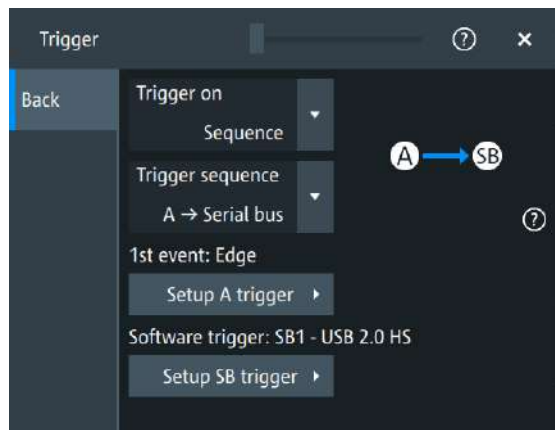

Figure 14-66: Serial bus Trigger setup dialog for USB 2.0
- In the "Trigger" tab (Figure 14-66):